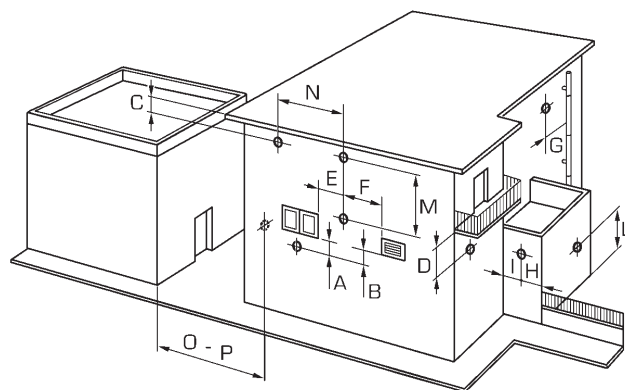

Fig. 10
2.8 POSITIONING THE OUTLET TERMINALS (fig. 10)
To provide some indications of possible solutions, **Table 3** gives the minimum distances to be observed, with reference to the type of building shown in fig. 10.